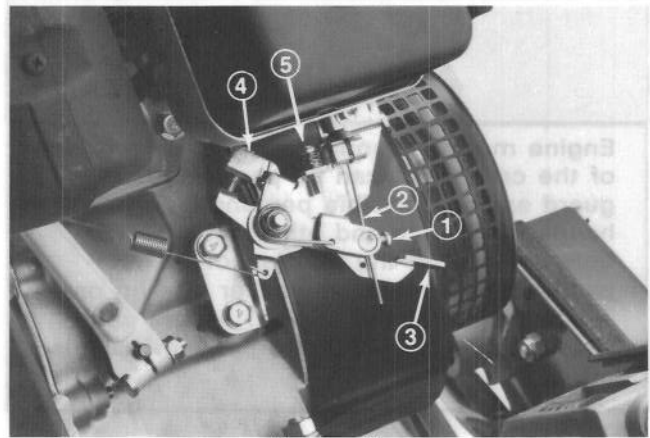

Figure 41
2. Loosen screw securing throttle cable to carburetor arm (Fig 41).